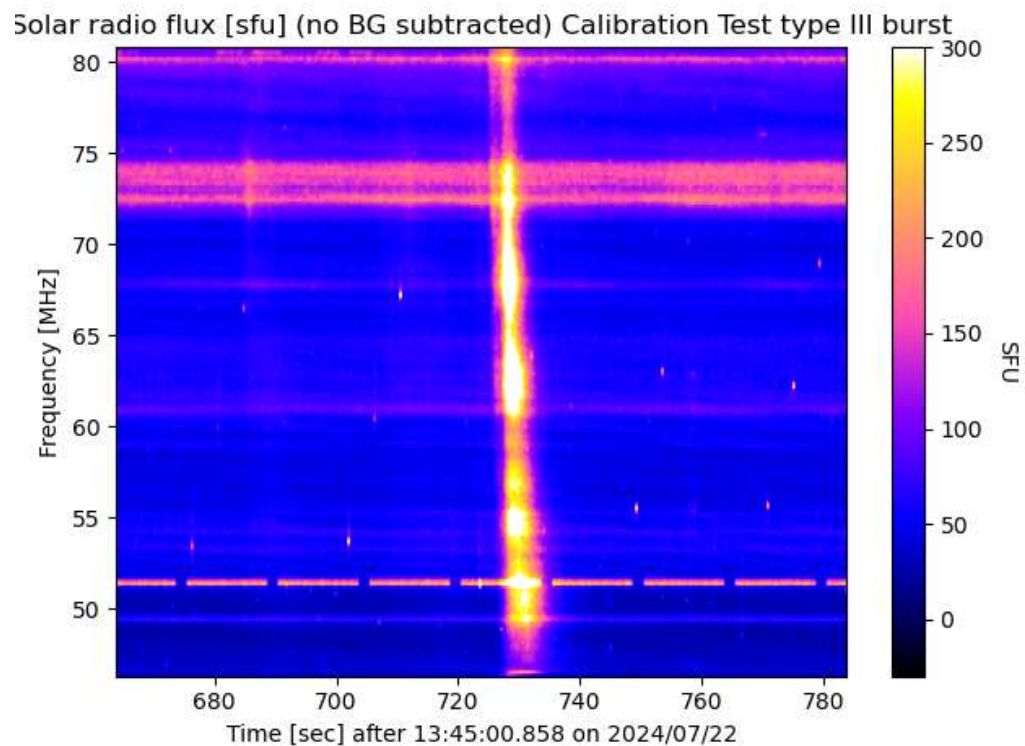

Fig. 12: Calibration in SFU, plot: no background subtracted. Thus, rfi is also calibrated!
6. In all plot cases you need to play with colour-table and colour-table clipping parameter vmin and vmax to get best visual quality of the calibrated observation. Also relevant regarding visual quality is whether you subtract background or not, see figures 12 and 13.